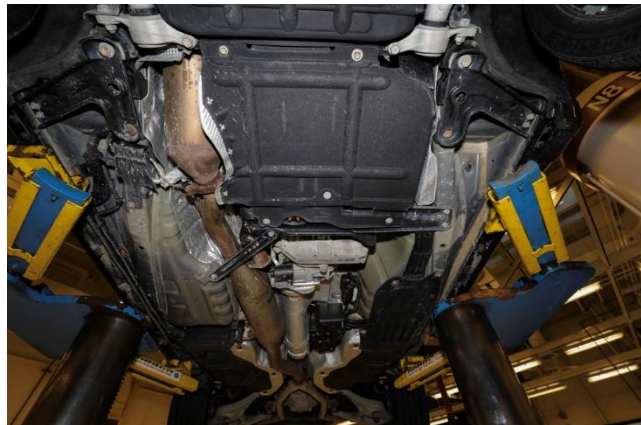

Figure 1 – Transmission Splash Shield
6. Remove the transmission splash shield (Figure 1).